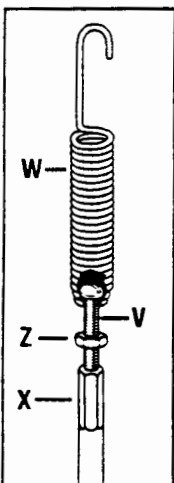
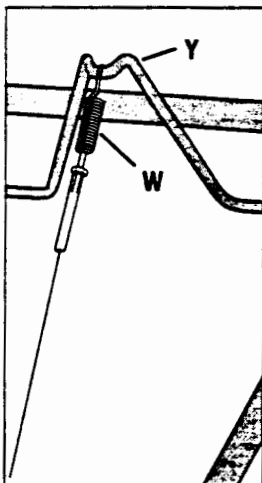

Fig. 2-5: Cable spring and adjuster.
Fig. 2-6: Attach forward clutch cable spring to forward clutch bail.
1	Spring, cable (see W, Fig. 2-5)
3. Insert the #10-24 x 2" slotted hd. screw (V, Fig. 2-5) down through the hooked end of the cable spring (W) until the screw threads extend through the spring.
4. Thread the #10-24 hex nut (Z, Fig. 2-5) halfway onto the screw (V).
5. Thread the screw (V) into the cable adjuster (X).
6. Hook the cable spring (W, Fig. 2-6) into the V-shaped bend in the Forward Clutch Bail (Y).
a. With the Forward Clutch Bail (Y, Fig. 2-6) in an open (released) position, measure the length of the cable spring (W) from the outermost coil to the outermost coil.